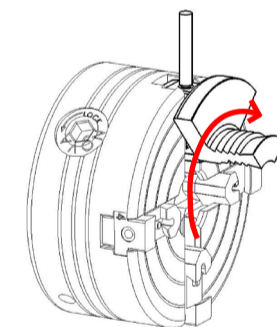

FIG 3
3. With the Lock Push Pin fully depressed in, position a desired jaw on the left side of a free Jaw Slide and slide the Jaw clockwise in a circular motion into place in the Jaw Slide. Remove the Pin holding the lock push pin in and ensure the jaw is securely locked in place. (Figure 3).